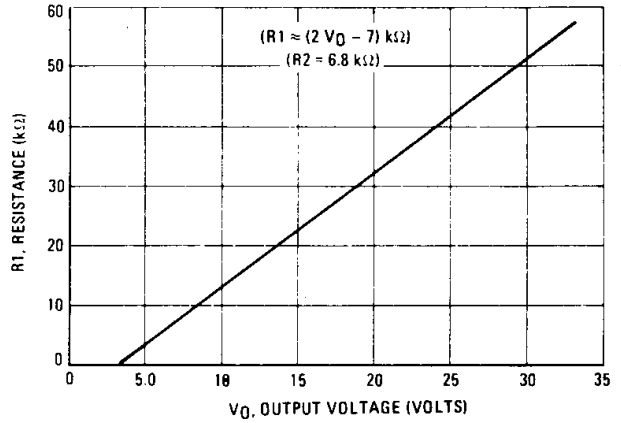

FIGURE 11 - R1 and R2 versus V_O
b) For $2.5 \leq V_O \leq 3.5$ Vdc - Output voltage is set by resistors R1 and R2 (see Figure 5). Resistors R1 and R2 can be determined from the graph of Figure 11 or from the equations: